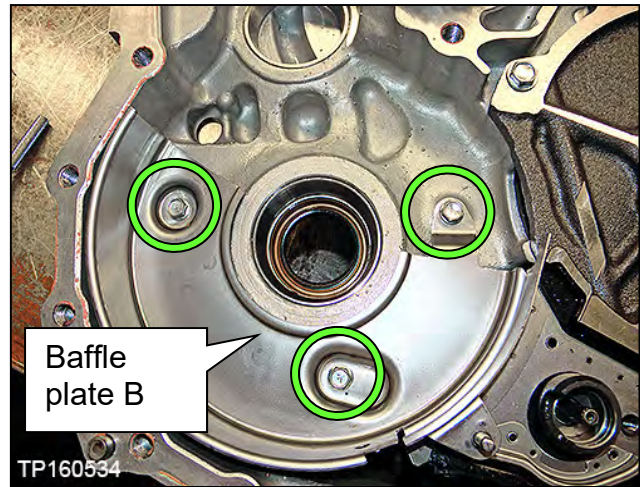

Figure 45
27. Remove the three (3) bolts from baffle plate B, and then remove baffle plate B (Figure 45).